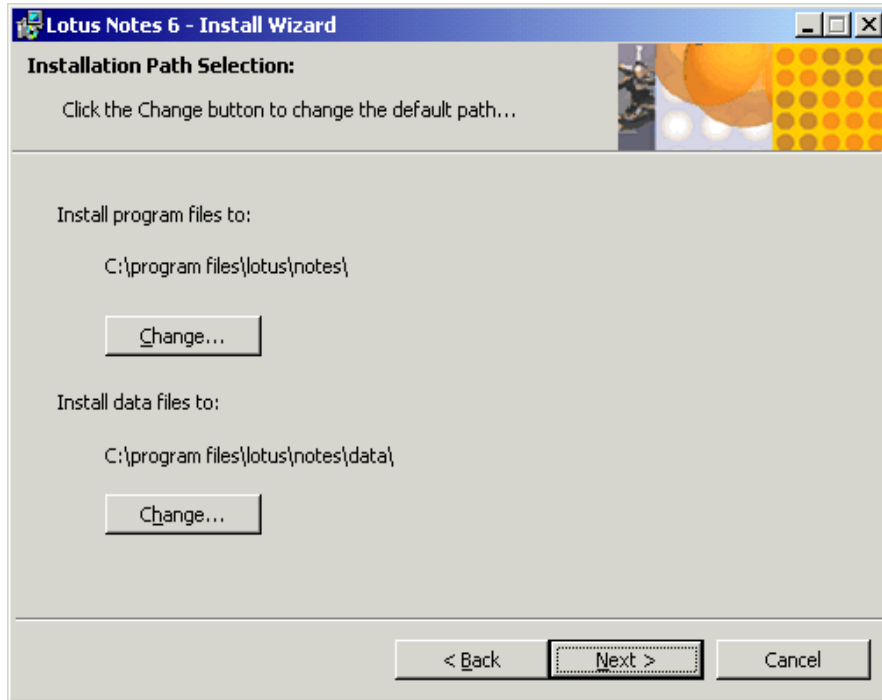

Figure 4-11 Data path
3. Type in the user name and the organization name. Click **Next**. You will see a window similar to Figure 4-11 on page 47.